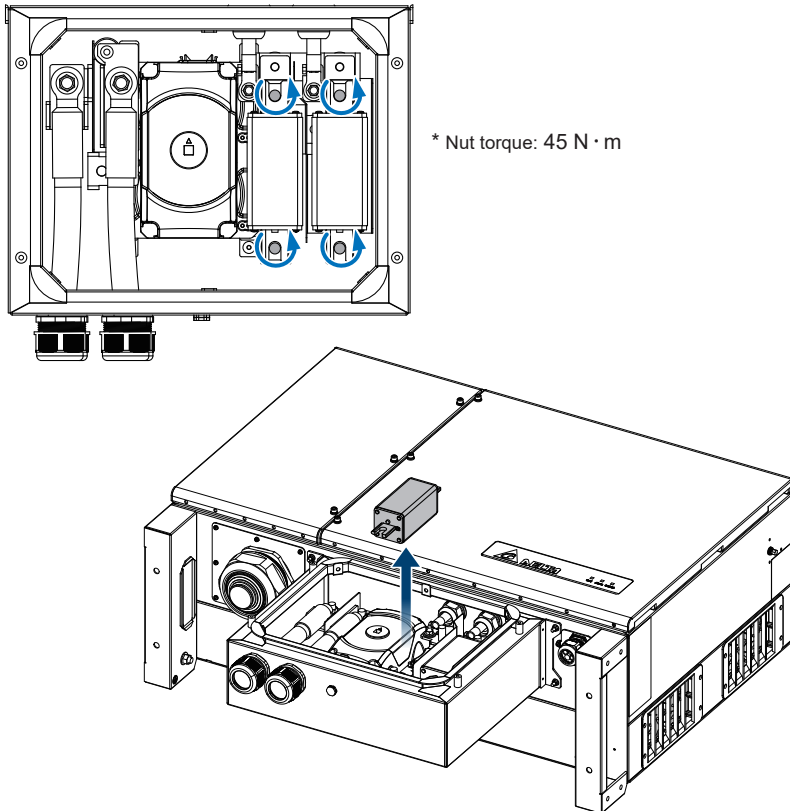

Figure 5-8: Fuse replacement process
M125HV_113 has fuses for both and negative side inside the DC combiner box, please follow **Figure 5-8** to replace the fuse.
3. Follow **Figure 5-8**, remove the nut of the fuse from DC combiner box.